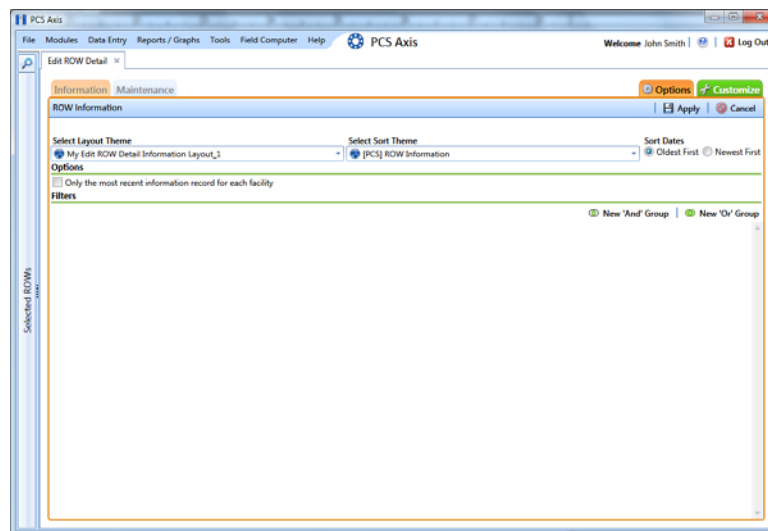

Figure 3-23. Options
- a Click the **Options** tab  to open the options page (Figure 3-23).